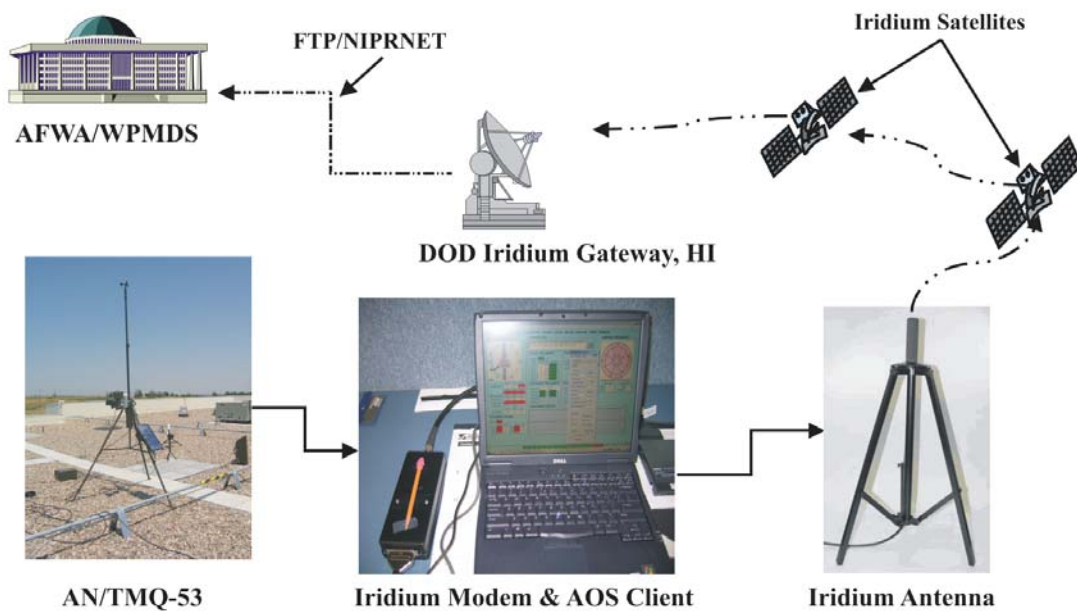

Figure 1. System Architecture
1.2. System Architecture. The AN/TMQ-53 provides real-time weather data, via radio modem, or direct line communications, to the laptop running AOS software. METAR and SPECI reports are generated and transmitted via the Iridium® Modem to the Iridium® Satellite Constellation. The site-generated weather observation is transmitted across the Iridium® constellation until it reaches the DoD Iridium® Gateway location in Wahiawa, Hawaii. From Hawaii, the weather observation travels via NIPRNET to the Weather Product Management Distribution Server (WPMDS) at Air Force Weather Agency (AFWA) (see Figure 1).